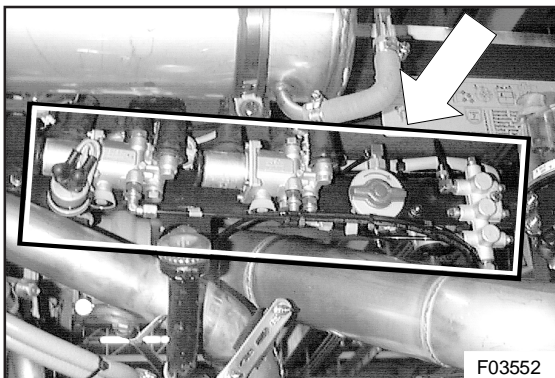
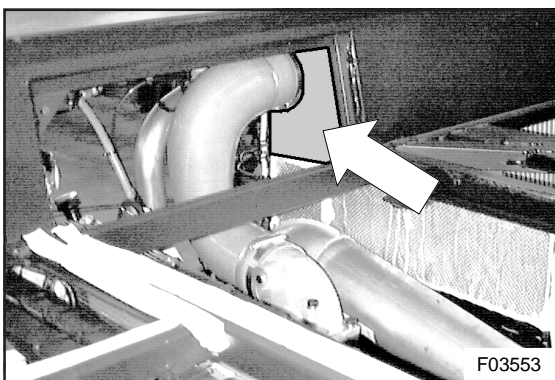

Figure 37: Air valve mounting plate
Figure 38: Intercooler closing rubber, Cummins (view from passenger compartment)
- 4 Next to the surge tank is a mounting plate with two solenoid air valves, a control valve, a pressure regulator and a distributor block (see Figure 37). Undo and remove the two M8 retaining screws left and right of the mounting plate and lift the complete assembly out of the way. The intercooler closing rubber can now be reached (see Figures 38 and 39).